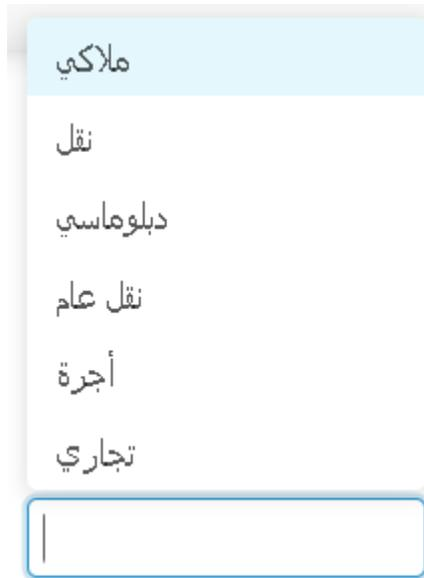

Figure 8 AvidAuto Supported Car Types
- **Filter results** per camera, plate-type, plate color, or duration as shown in Figure 8